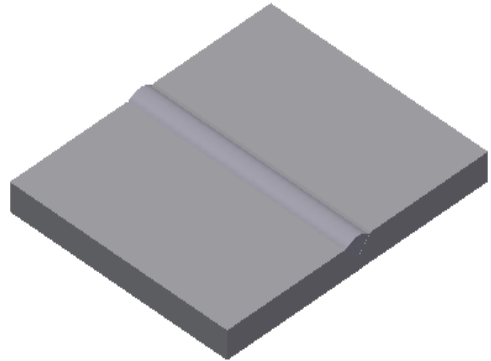

Figure 16-25 Final weldment assembly after creating the fillet weld
9. Choose the **Apply** button and then the **Cancel** button to exit the dialog box. Next, choose the **Return** button to finish the creation of the fillet weld. The welded plates are shown in Figure 16-25.